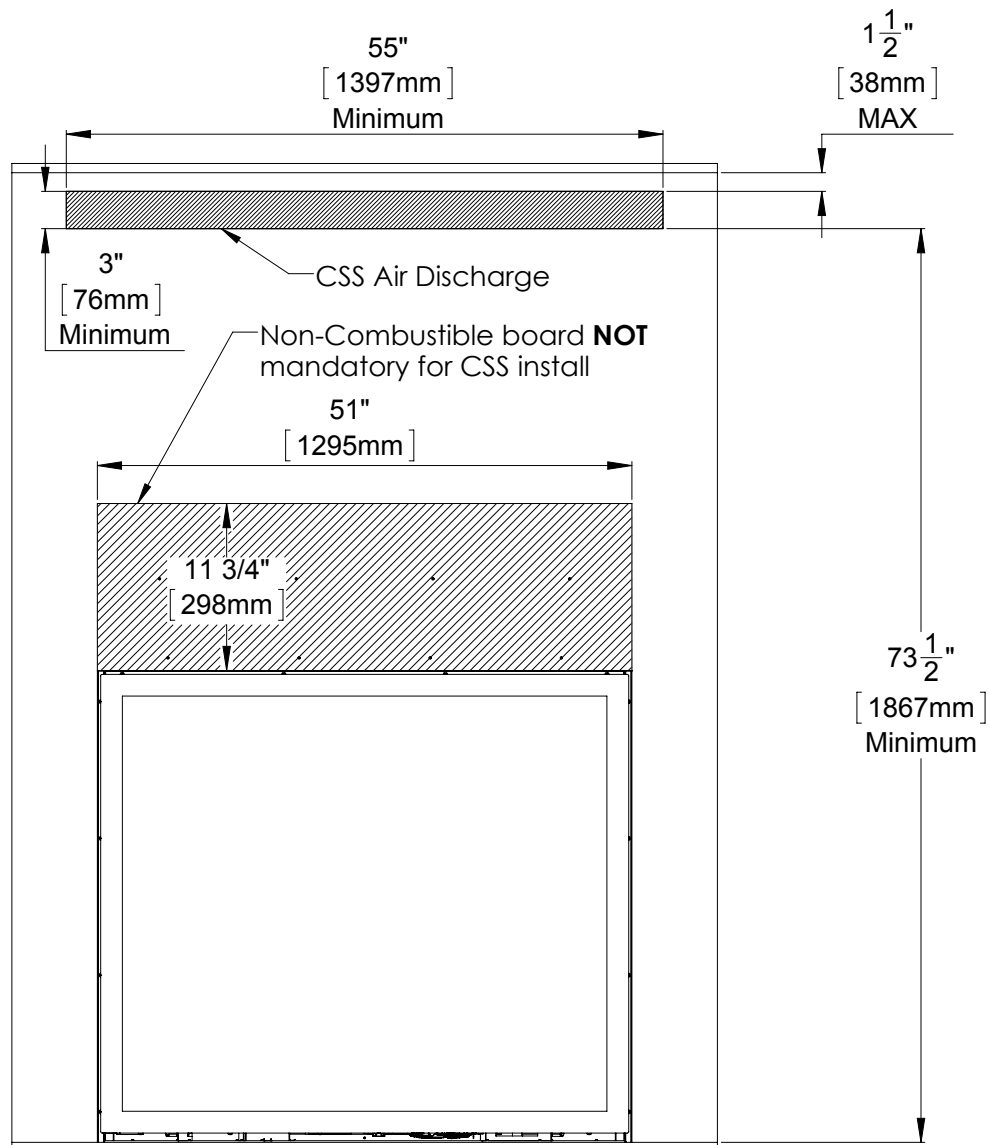

Figure 48: Framing Option 1
**Framing Option 1: Front Discharge (flush wall installations)** - Construct the framing in a way that provides a minimum 55 inch (1397mm) by 3 inch (76mm) gap at the top of the facing wall. It is essential that these dimensions are respected and not to deviate away from them when using combustible materials inside the chase (see Figure 48).